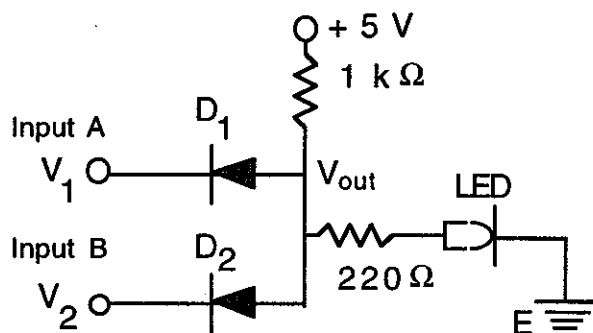

Fig. 3a
An AND logic gate can be constructed using two diodes, D_1 and D_2 , and a resistor as shown in Fig. 3a. The arrows represent the forward direction (the direction in which they conduct) of the diodes. V_1 and V_2 represent the two input voltages. The operation of an AND gate is explained below.
When both input voltages, V_1 and V_2 (Fig. 3a) are zero, both diodes are conducting (have currents in them). Thus V_{out} is almost zero. Even with one of the input voltages zero, V_{out} is almost zero because the corresponding diode is conducting. When both input voltages are made positive, neither diode is conducting and V_{out} (= 5 volt) is applied to the LED circuit and it lights up.
- (a) Make the circuit as shown in Fig. 3a using the breadboard. Connect the power supply (+ 5V) across row B at the top of the breadboard and the ground (negative of the power supply) to row A at the bottom. Remember that the silver end of the diode indicates the forward direction. Connect one diode between a2 (silver end) and a5, and the other diode between c1 (silver end) and c5. Connect the 1 K Ω resistor between row B (top) and b5. Connect the 220 Ω resistor between d5 and d7 and the LED between e7 and f7 (flat end). Connect j7 and row A (at the bottom). Input A is applied at b2 and input B, at d1.